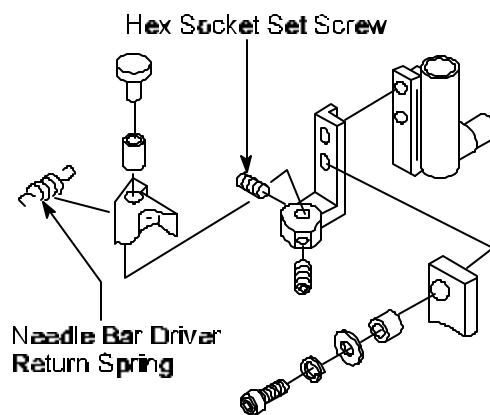

Figure 3
7. **Remove** Needle Bar Driver Return Spring. See *Figure 3*.
8. **Using** a 2 mm Allen Wrench, **loosen** remaining hex socket set screw. See *Figure 3*.